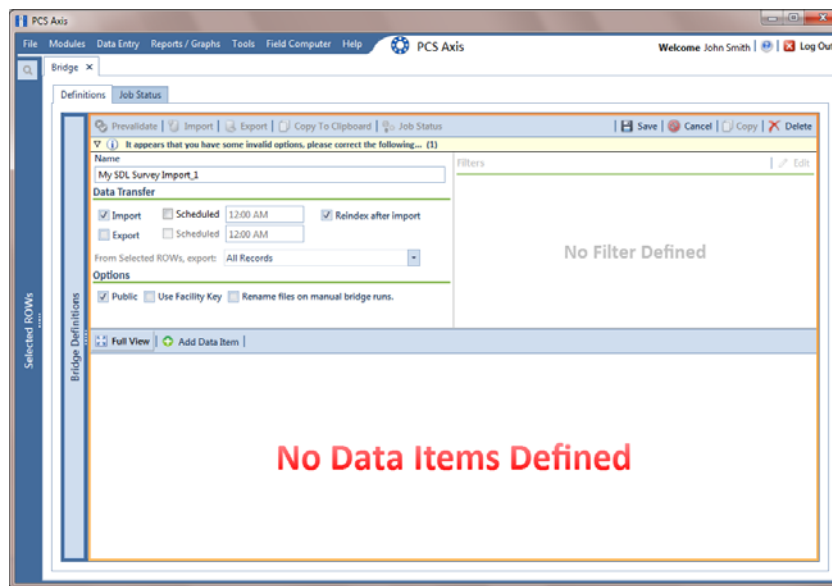

Figure 10-14. Bridge Import Definition
- 4 Type a unique name for the definition in the **Name** field (Figure 10-14, page 505).
- 5 Complete the following steps to set properties in the *Data Transfer* group box (Figure 10-14, page 505):
- 6 Complete the following steps to set properties in the *Options* group box (Figure 10-14):